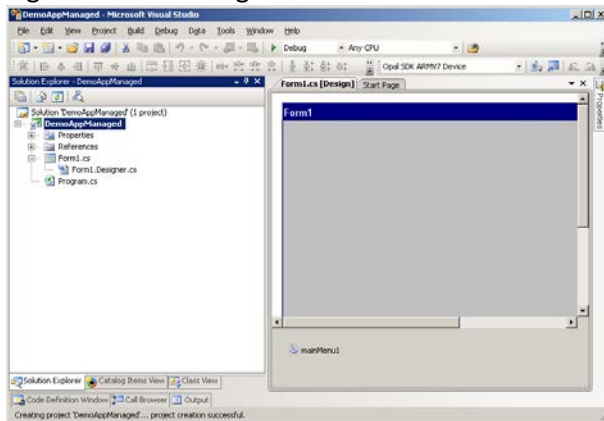

Figure 2: DemoAppManaged
5) Figure 2 shows the generated files.